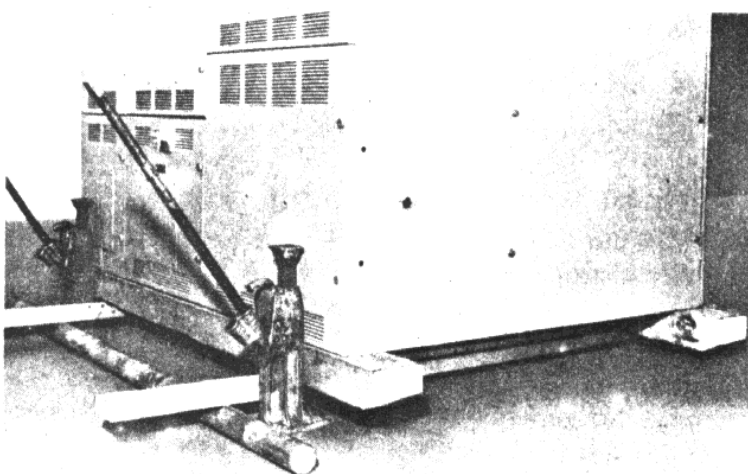

Fig. 3—Switchgear Raised, Rollers and Channels in Place Prior to Lateral Moving
3. For lateral moving, raise the units by jacks and remove the rollers. Place the rollers laterally with steel channels (not furnished) resting on the rollers as shown in Figs. 3 and 4. Move the units, using procedure described in paragraph 2, until they are in the desired position.